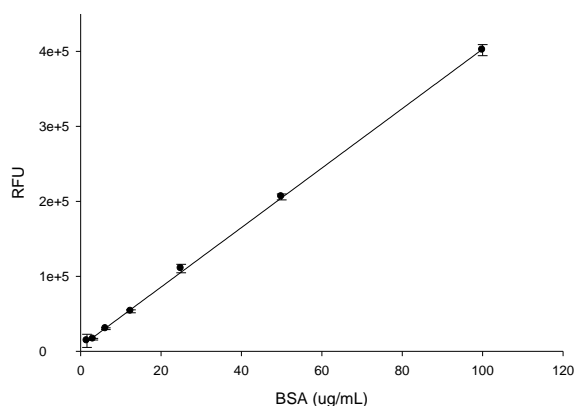

Figure 1. The detection range of OPA protein assay.
- Plot the BSA standard as fluorescence unit (RFU) versus concentration (Figure 1).